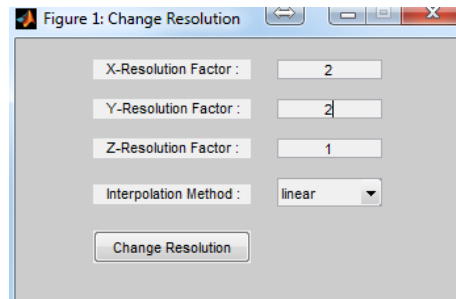

Figure 6.4: Resolution Window. An example for doubling in-plane resolution by using linear interpolation
-  : Upsample or downsample image matrix by using various interpolation methods (Figure 6.4)